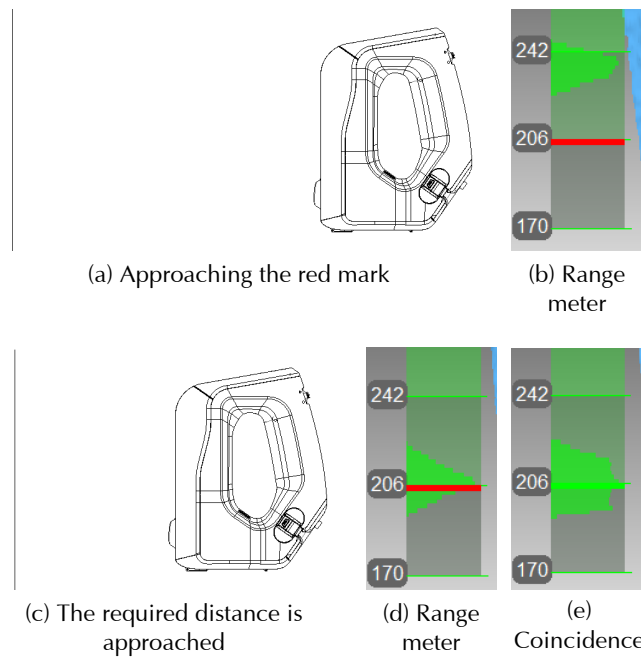

Figure 8.4: **Spider**'s positions and corresponding distances on the range meter
7. Smoothly move the scanner towards the flat surface in a way that histogram peak coincides with the red mark on the range meter (see figure 8.4).